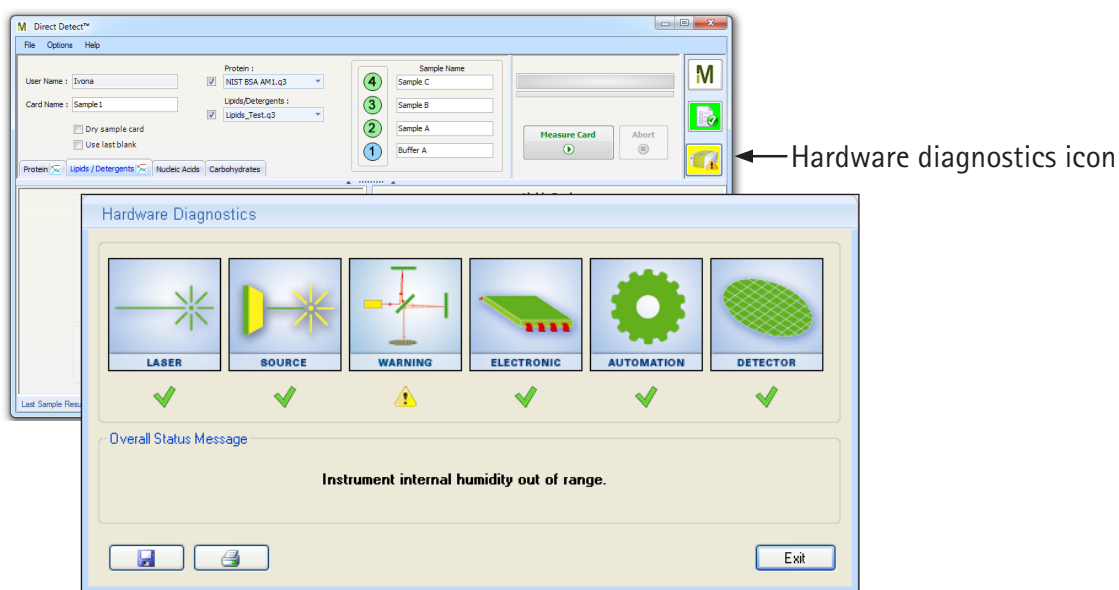

Figure 26. Hardware Diagnostics interferometer warning
2. The desiccant is accessible from the rear side of the spectrometer (Figure 26).
7. Insert the desiccant pack properly into the spectrometer as shown in Figure 26.